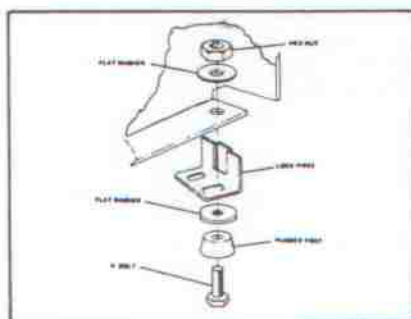
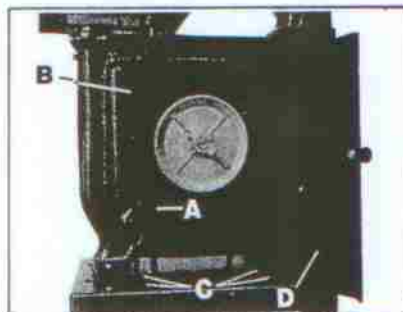

Fig. 6
Fig. 12
Refer to direction of Fig. 6, mount the foot pads on four corners of the leg stand in order to increase the machine's stability.
Place the belt and pulley guard (B) Fig. 12, on the top shelf over the belt opening. Use the four round head screws (C), to fasten in place. Place door (D) Fig. 6, on hinges.